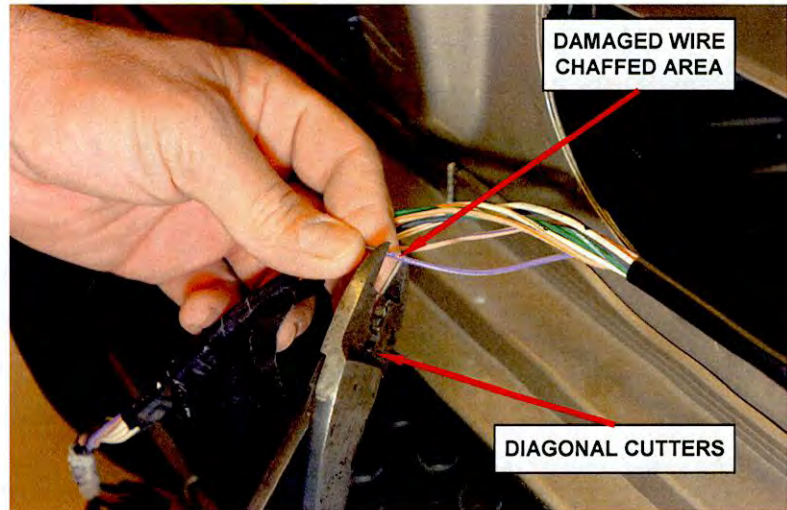

Figure 15 – Cut Damage Wire
11. Using diagonal cutters, cut through the damaged wire in the middle of the chaffed area (Figure 15).